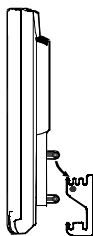

Figure 13
1. Place the panel on the mounting plate (figure 13). If you want to secure the panel to the mounting plate, place the panel in the frontmost notches.